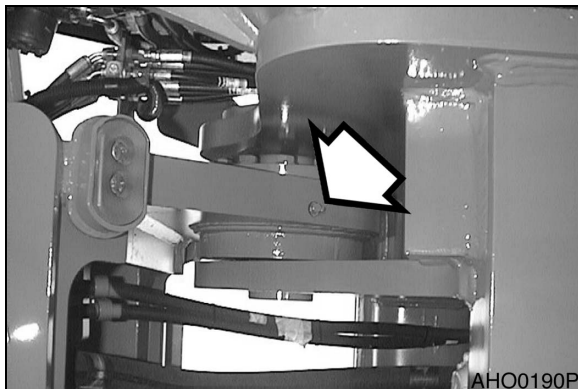
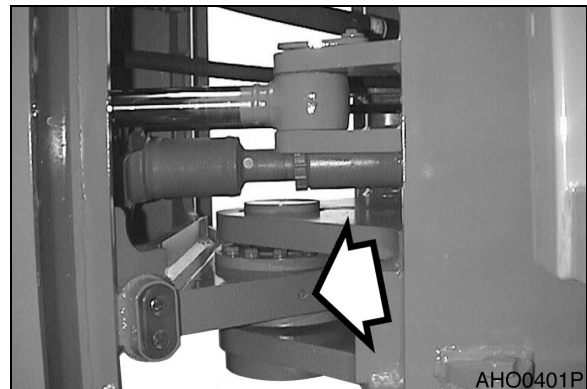

Figure 42
Figure 43
1. Center pins, upper (Figure 42) and lower (Figure 43). Two locations on each side of machine.